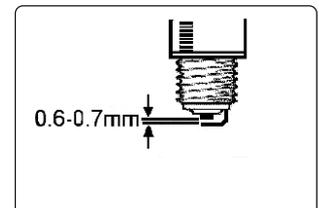

fig.15
- 7.1.3. Check the spark plug gap fig.15. this should be measured with a thickness gauge.